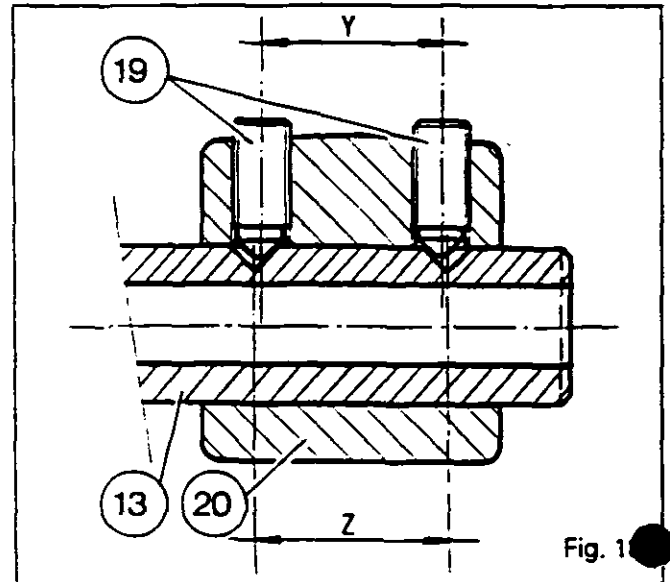

Fig. 19
76. Hold the synchromesh against the high range gear (29). (See Fig. 19).
77. Adjust the position of the fork (20) by acting on the two adjusting screws (19) after cleaning them with solvent and coating them with Loctite 221, in order to obtain a play of  $J1 = 0.3$  mm between the rear face of the pad and the synchromesh slide rod (Figures 19 and 20).
78. Set the control piston (13) and the synchromesh to the low range (Tortoise).
85. Apply Loctite 648 on the tightening face of the slider (18) and Loctite 241 on bolt (17). Fit the washer and the bolt.
86. Adjust plays J5 and J6 (min. = 0.3 mm) evenly between the slider and the lock in the Hare and Tortoise positions (Figures 19 to 21 and 24).